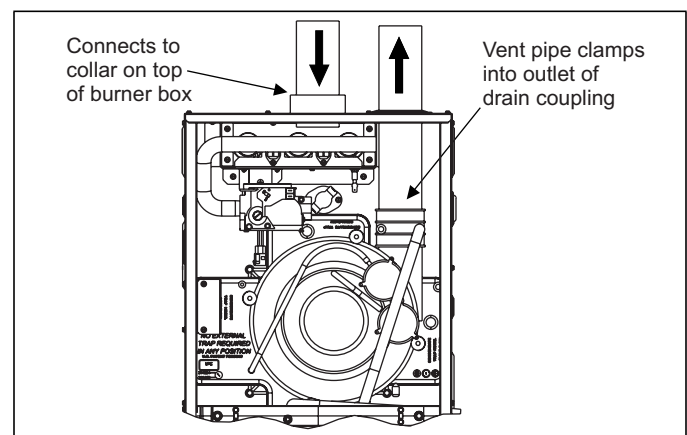

FIGURE 33: Direct Vent Air Intake Connection and Vent Connection
1. **OUTDOOR COMBUSTION AIR:** This is a direct vent configuration where the combustion air is supplied through a PVC or ABS pipe that is connected to the PVC coupling attached to the furnace and is terminated in the same atmospheric zone as the vent. This type of installation is approved on all models. Refer to Figure 33.
This installation requires combustion air to be brought in from outdoors. This requires a properly sized pipe (shown in Figure 33) that will bring air in from the outdoors to the furnace combustion air intake collar on the burner box. The second pipe (shown in Figure 33) is the furnace vent pipe.